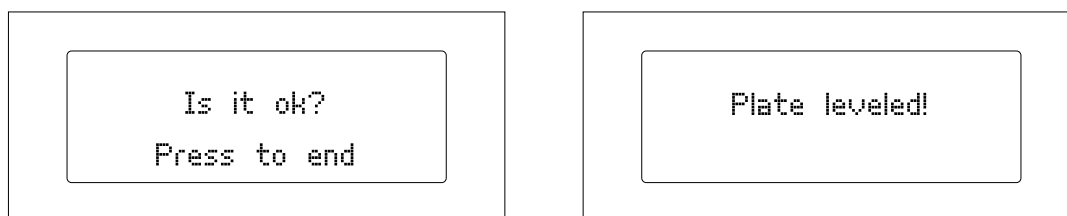

Figure 3.15 Completing the levelling process
- Finally, the extruder will move across to the centre of the base and you will be asked to verify the distance between the nozzle and the print base once again. Once you have done so, press the control wheel to exit the levelling program (fig. 3.15). It is recommended that you repeat the levelling process as many times as necessary in order to make sure the base is correctly levelled.